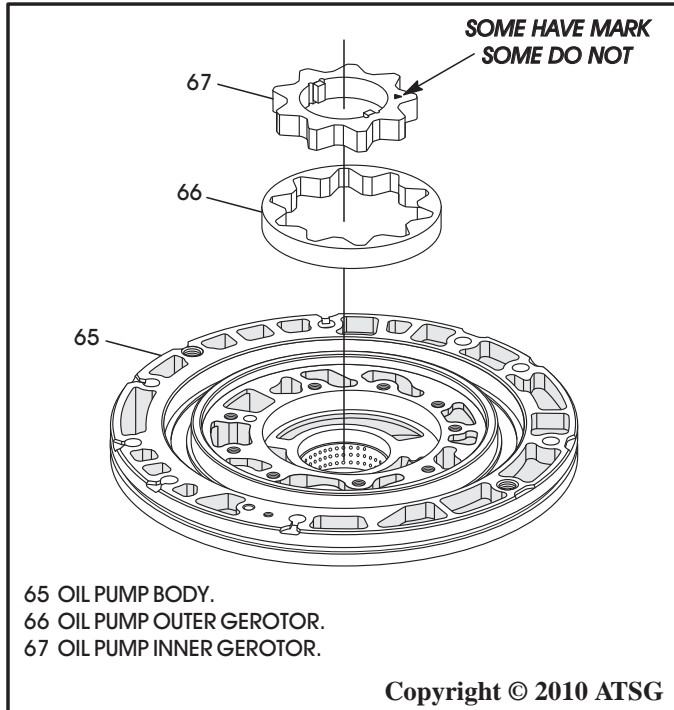

Figure 158
- Install the outer and inner gerotor into pump body, as shown in Figure 158, with marks facing up, *if they have marks*.